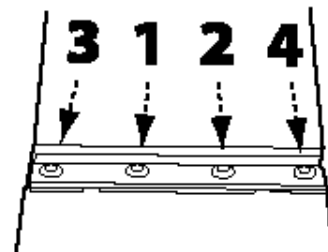

FIGURE 10
10. Replace the clamp bar and tighten the four screws securing the clamp bar to the cutterhead. Slightly tighten each of the clamp screws, making sure to follow the sequence shown in Figure 10.